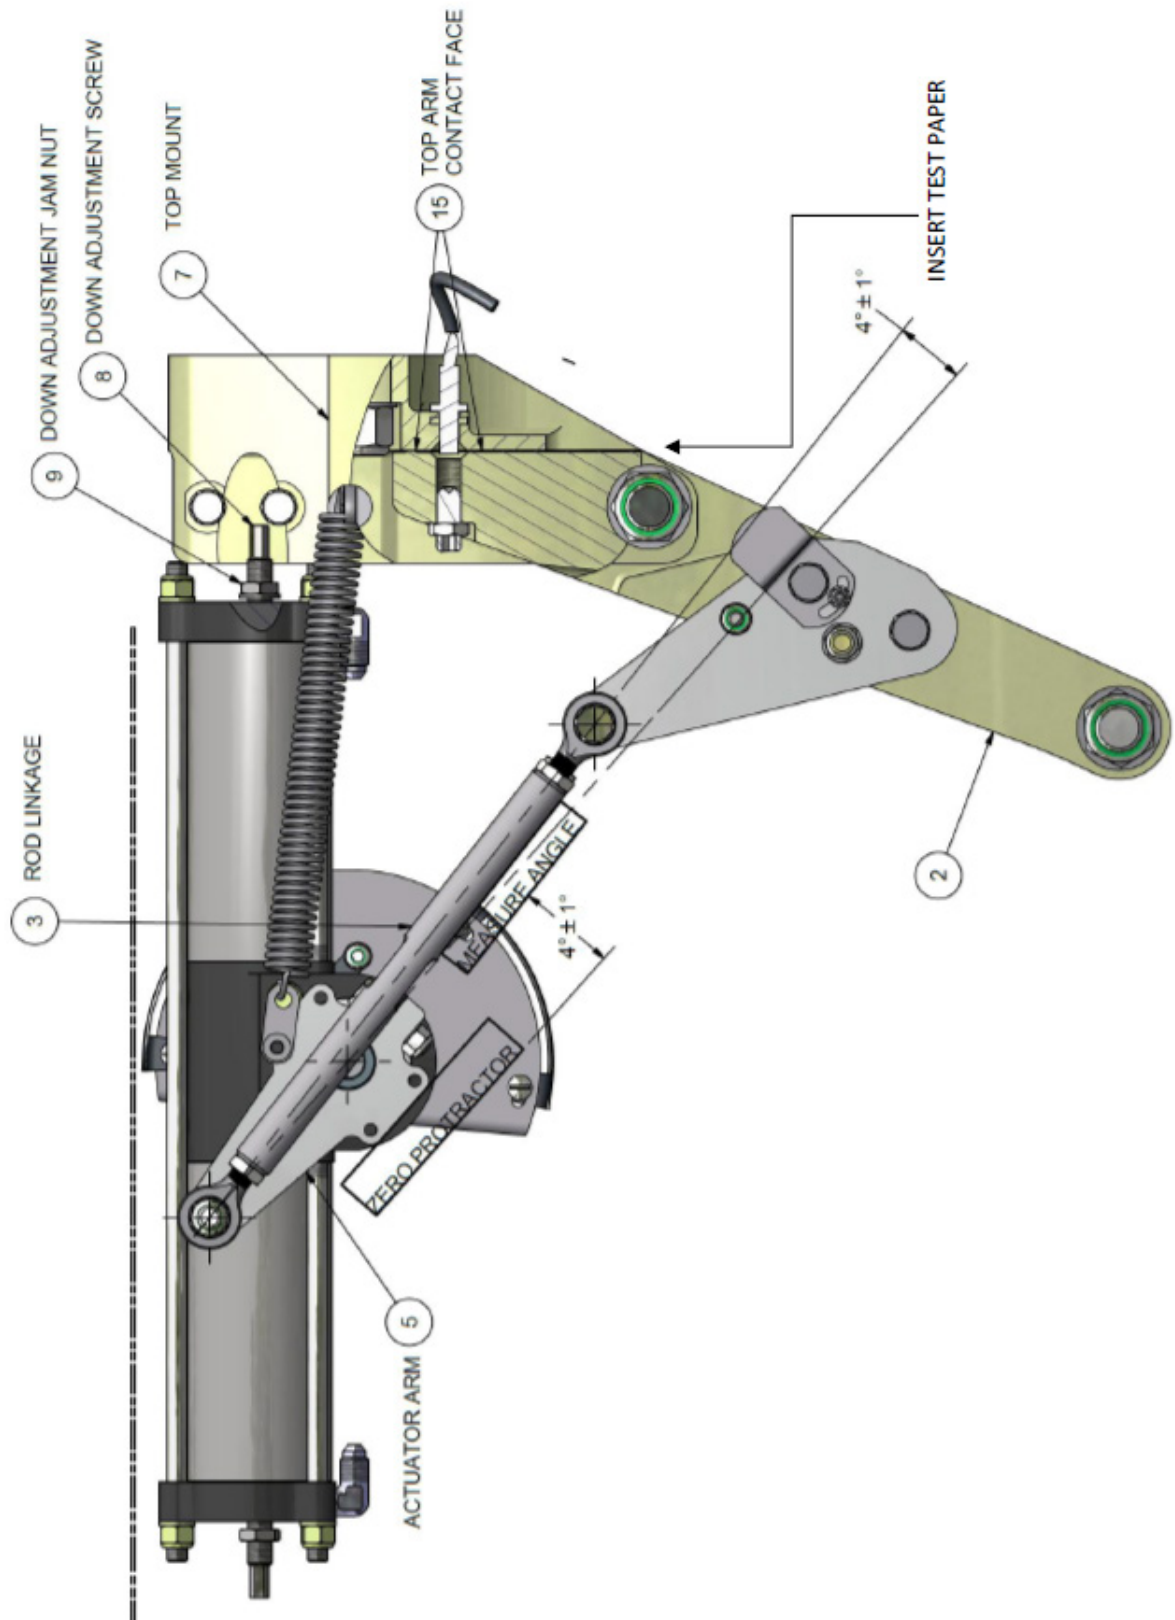

FIGURE 4-4B: MAIN GEAR ADJ. DOWN
22. Using a small digital protractor, the over-center angle will be verified. Lay the protractor across the bottom of the lower two screw holes in the actuator arm. Note: Older float models may not have flat spot shown; use the same location as shown. Zero the protractor. See Figure 4-4B. Then place the protractor on the top or bottom of the rod linkage. The measured angle should be $4^{\circ} \pm 1^{\circ}$. Repeat for the other actuator arm and rod linkage by zeroing the protractor on the other actuator arm and measuring the rod linkage angle.
28. Check the operation of the over center down lock. As the actuator rotates causing the contact faces to touch, the actuator arm should continue to rotate and "snap" past Top Dead Center (TDC). Make sure that there is preload on the linkage rods so that contact faces remain touching past TDC. Push and pull on the Top Arm Assembly (Item 2) to ensure it is locked over center. The Top Arm Assembly needs to be contacting the Top Mount (Item 7) when the gear is extended to properly transfer the landing loads. Ensure Top Arm and Top Mount are making contact by sliding a 3-inch wide piece of paper in (See Figure 4-4B and photo on this page), then moving gear to down and locked position. If paper is tight, gear is rigged correctly. If paper is able to slide out, then the Top Arm and Top Mount are not making proper contact and need further adjustment.
2. Loosen the jam nut on the Gear Down Proximity Switch located on the back of the Main Gear Top Mount. Thread the Gear Down Proximity Switch in or out until the face of the sensor is flush with the face of the Main Gear Top Mount. Reference Figure 4-4B. Tighten the jam nut on the proximity switch to 10 +/- 3 inch-pounds.